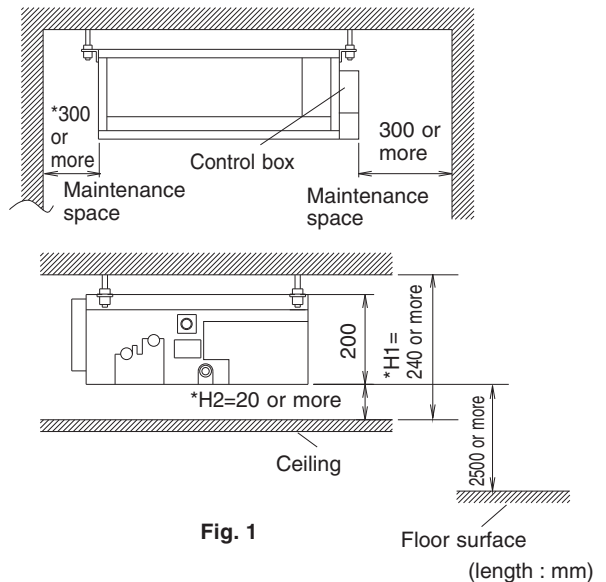

Fig. 1
**(1) Select an installation site where the following conditions are fulfilled and that meets with your customer's approval.**
- Where sufficient clearance for maintenance and service can be ensured. **(Refer to Fig. 1)**